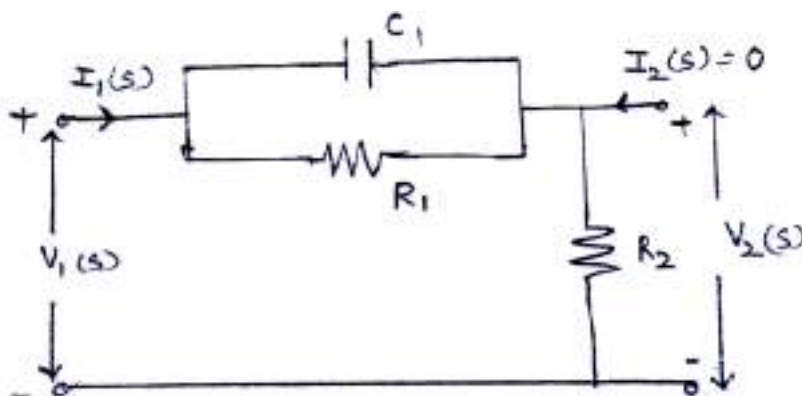

Figure 3 Q. 2(c)
c) Find out the voltage transfer function of the network shown in figure 3. 4